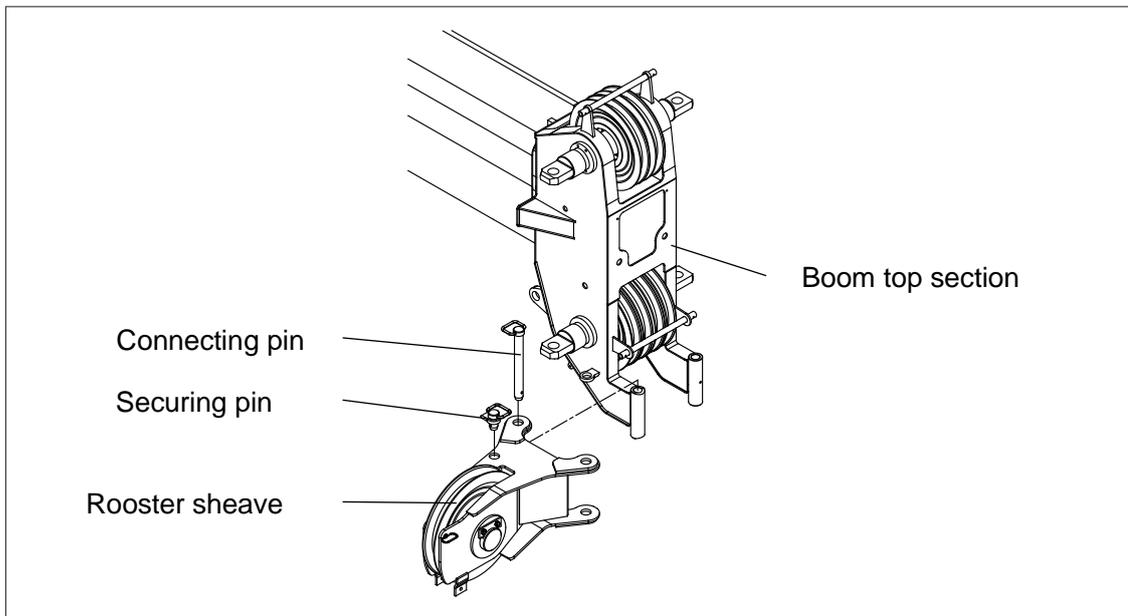

Figure 05 – 14
- b) Release the securing pin and turn the rooster sheave bracket until connecting pin can be bolted. See Figure 05 – 14.